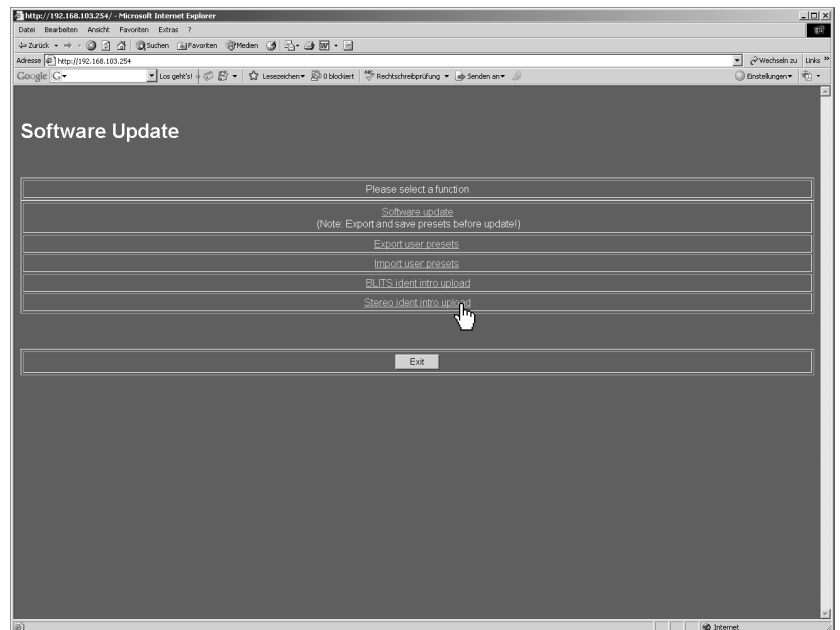
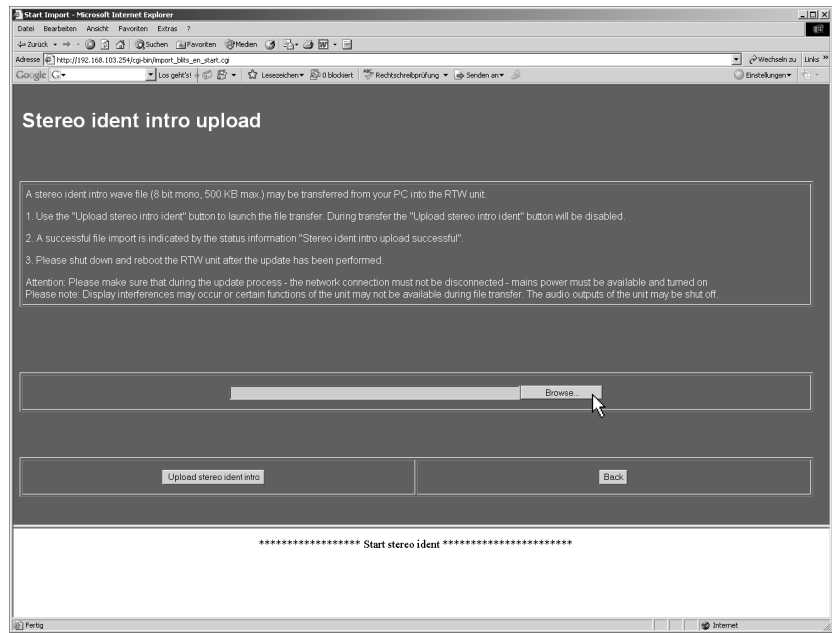
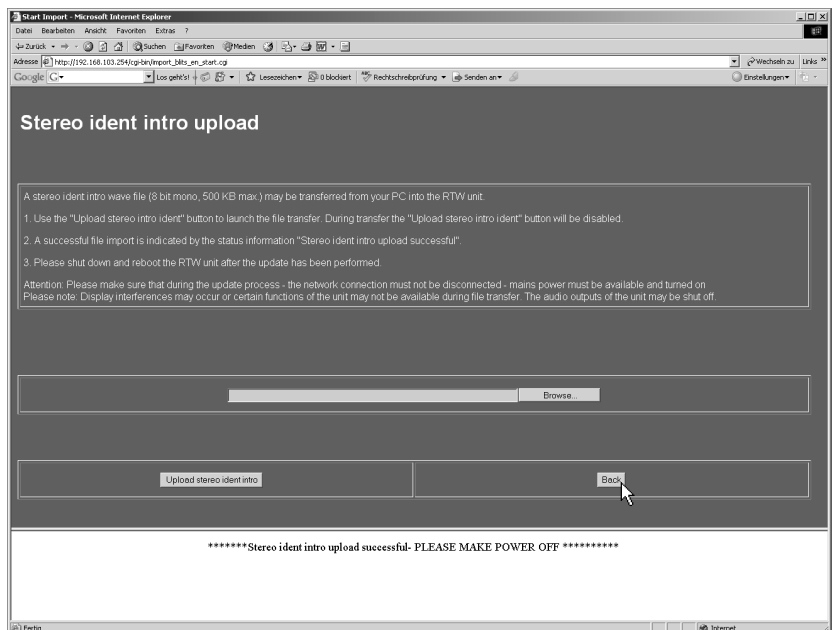

Fig. 8-33: Software Update Program menu in web browser
Fig. 8-34: Display of the Stereo ident intro upload menu page (Browse ...)
Fig. 8-37: End of the Stereo ident intro upload
2. The SurroundControl units should respond with a screen like the one shown in Fig. 8-33. Choose **Stereo ident intro upload**. **Please note the instructions on the Stereo ident intro upload menu page** (see Fig. 8-34).
3. Please click the **Browse ...** button (see Fig. 8-34) to browse for the ident intro wave file.
6. When "Stereo ident intro upload successful – PLEASE MAKE POWER OFF" is displayed the ident intro upload process is finished (see Fig. 8-37). For activating the ident intro wave file the SurroundControl unit has to be restarted.
7. Click the **Back** button (see Fig. 8-37) to get back to the home page (see Fig. 8-33). There please click the **Exit** button to leave the software update program.